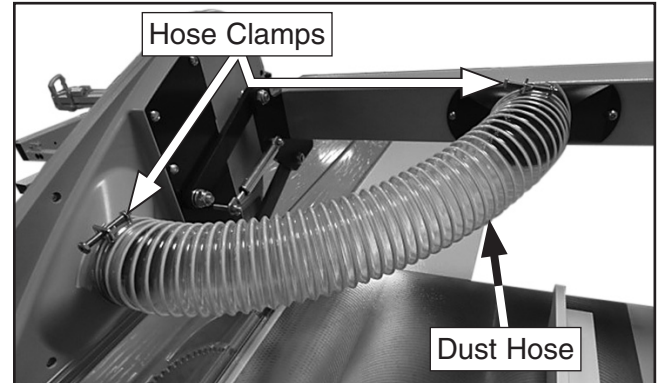

Figure 62. Dust hose attached to blade guard and upper support arm.
63. Attach dust hose to blade guard and upper support arm dust ports, and secure with hose clamps (see **Figure 62**).